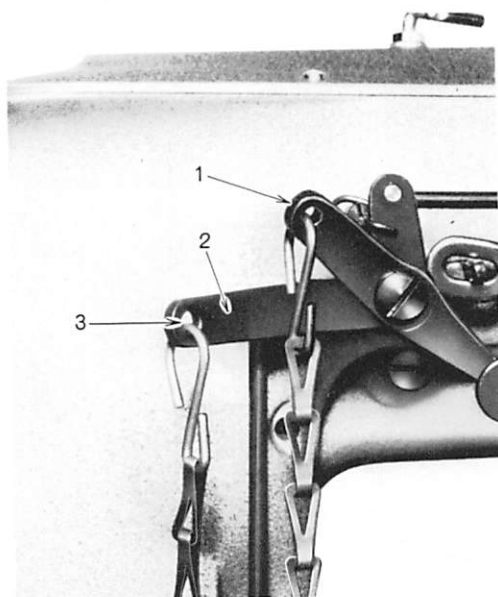
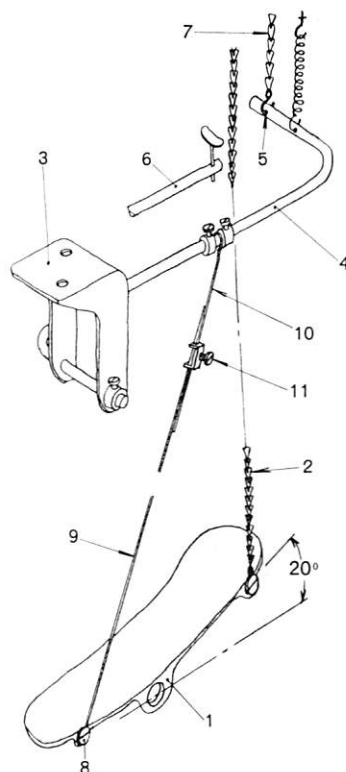

Fig. 32
Fig. 33
1. Connect the knife change over lever (1, Fig. 32), the pedal (1, Fig. 33) and the chain (2, Fig. 33).
2. Attach the knife releasing rod bracket (3, Fig. 33) on the underside of the table so that the hole (3, Fig. 32) of the lever (2, Fig. 32) and the hole (5, Fig. 33) of the releasing rod (4, Fig. 33) assembled to the releasing rod bracket (3, Fig. 33) are on a vertical line.
Assemble the releasing rod to be parallel with the knee lifter connecting rod (6, Fig. 33).
3. Set the pedal extension rod (9, Fig. 33) with the screw (8, Fig. 33) to the pedal and attach the pedal extension rod (10, Fig. 33) to the releasing rod at a little to the left from the center of it. Care must be taken so that the pedal extension rod can move slightly.
4. Adjust so that there is no slack on the chain attached to the front of the pedal, and connect the two pedal extension rods with the adjusting screw (11, Fig. 33).